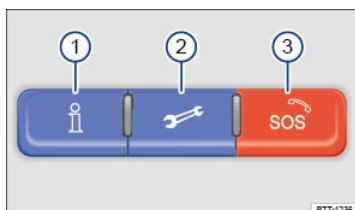

Fig. 155 In the roof console: 3-button module to connect to VW Car-Net Security & Service operators (if equipped).
You can access VW Car-Net Security & Service via your VW Car-Net iPhone® or Android® app (text and data rates apply) and the VW Car-Net Security & Service website (<http://www.vw.com/carnet>). If you have a question or would like to subscribe, please either press the ⇒ Fig. 155① button in your vehicle or contact the VW Car-Net Security & Service Response Center at 1-877-820-2290. For more information or to log on to your VW Car-Net Security & Service account, visit <http://www.vw.com/carnet>.
The Manual Emergency Call service and all other VW Car-Net® Security & Service features require a trial or paid subscription. To begin your trial or paid subscription, authentication and activation are required. For more information, please visit the website (<http://www.vw.com/carnet>), press the ⇒ Fig. 155① button in the 3-button module in your vehicle, or contact the VW Car-Net Security & Service Response Center at 1-877-820-2290.
**Key to ⇒ Fig. 155 :**
- ① Connects to Customer Specialist at the VW Car-Net Security & Service Response Center.
- ② Connects to the Volkswagen Roadside Provider for assistance in the event of a breakdown.
- ③ Activates an emergency call.